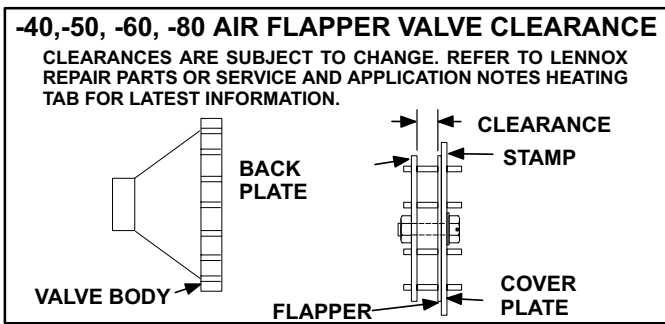

FIGURE 73
- 5 - To find potential warpage in the plates, check for the required clearance between the flapper and back plate in several places around the circumference of the valve. See figure 73. Use a feeler gauge, starting small and working up to the clearance dimension until the gauge is just about snug.